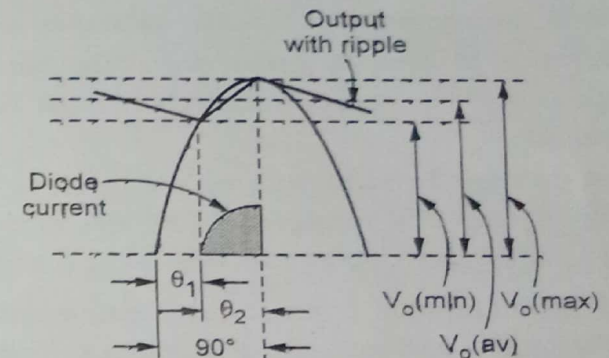

Fig. 1.2
- Consider the path of the output voltage with ripple of rectifier with capacitor filter as shown in the Fig. 1.2.
From Fig. 1.2,